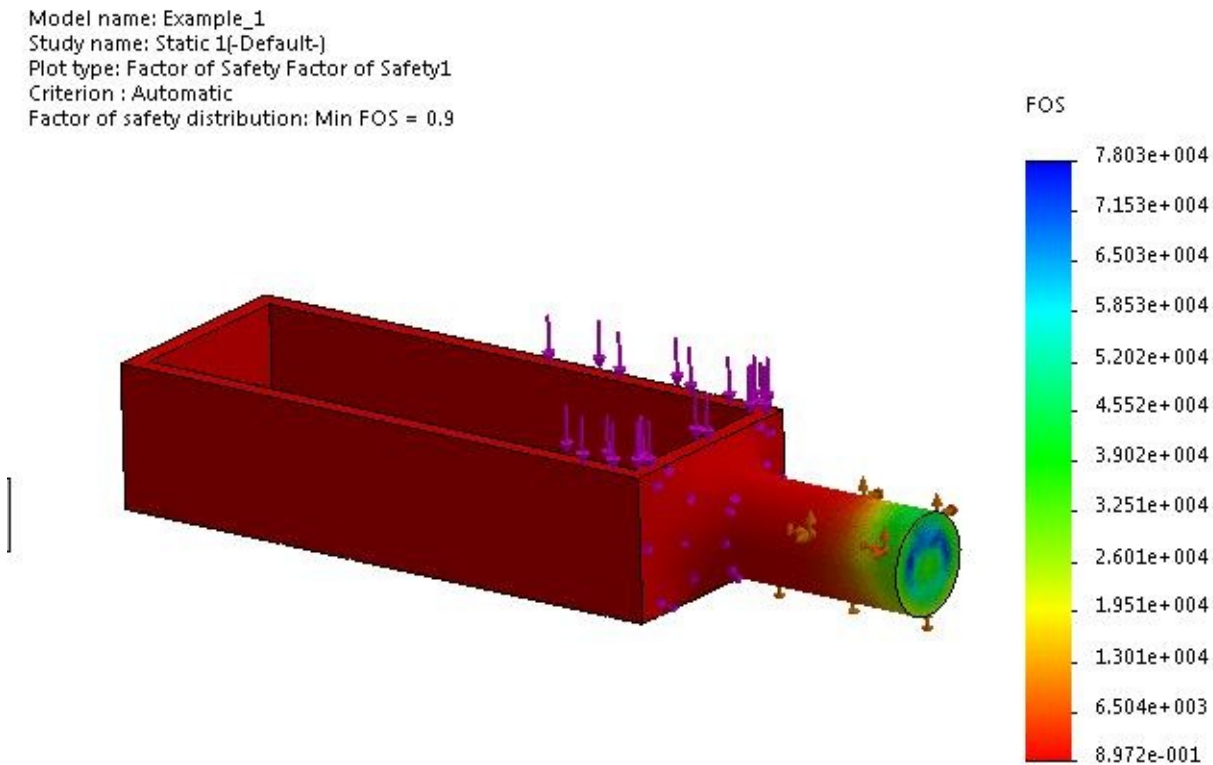

Figure-21. Factor of Safety plot
- Click on the **OK** button from the **PropertyManager**. The **Factor of Safety plot** will be displayed in the modeling area; refer to Figure-21.